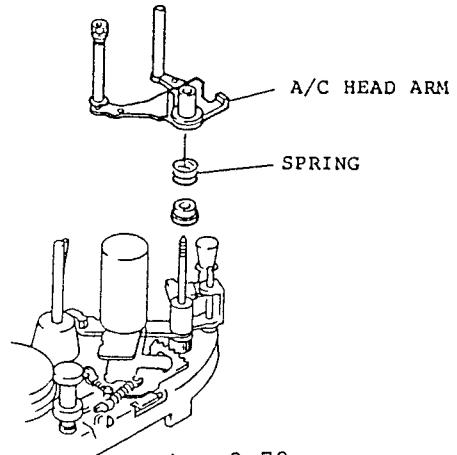

Fig. 2-78
(See Fig. 2-78)
3. Remove the A/C head arm. (See Fig. 2-78)